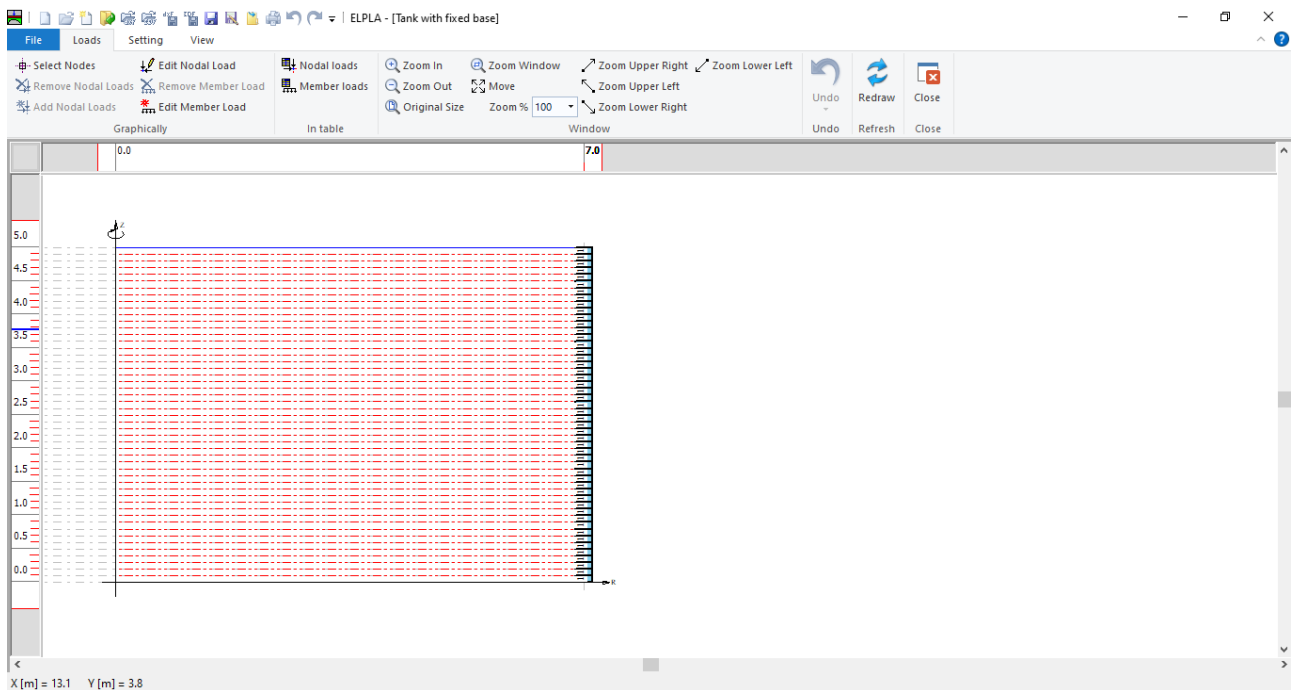

Figure 3.18 "Loads" Window
To define the loads, choose "Loads" command from "Data" Tab. The following window in Figure 3.18 appears. In *ELPLA*, entering loads may be carried out either numerically (in a table) or graphically using the commands of "Loads" Tab in Figure 3.18. In this example, there is not applied load, as the vertical load has been already defined by the unit weight of the tank material, while the hydrostatic pressure on the tank is defined by the unit weight of water.
- Choose "Save" command from "File" menu in Figure 3.18 to save the load data
- Choose "Close" command from "File" menu in Figure 3.18 to close the "Loads" window and return to *ELPLA* main window